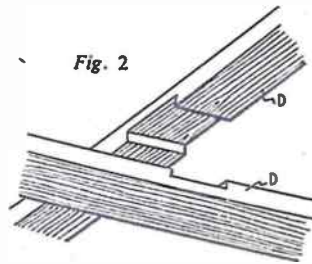

Fig. 2
The underside of the table is shown in Fig. 2, which gives the position of the legs, together with all necessary measurements. Although it is not essential, it is certainly an advantage to fasten the legs to a block of wood 5ins. square and about 1in. thick, which is shown in the
They are halved together as indicated in Fig. 2. Secure them together and to pieces (A) by means of glue and screws.